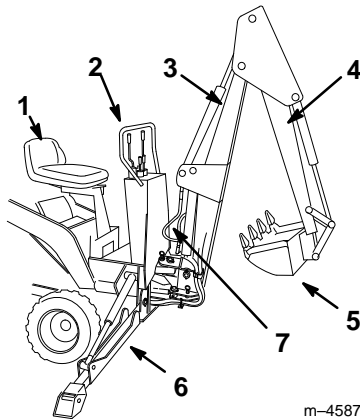

Figure 14
Figure 14 illustrates the backhoe. Familiarize yourself with all of the components listed in Figure 14.
1. Fully raise the boom, retract the dipperstick, and curl the bucket rearward (Fig. 14). Ensure that you center the boom locking pin holes as much as possible.